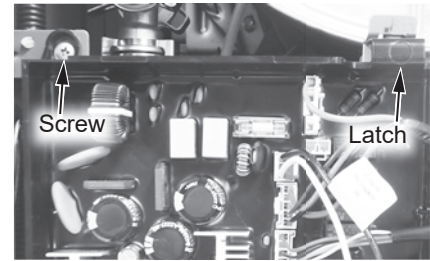

Figure 67 - Control board location
- 6 Locate the screw securing the control board panel. Use a Phillips screwdriver to remove the screw and place it aside in a safe place for reinstallation. See Figure 67.
- 8 Locate the gas valve at the bottom left side of the water heater. See Figure 67.
- 9 Locate and remove the spring clip securing the gas valve to the gas piping system. Note its orientation and place it aside for reinstallation. See Figure 67.
- 10 Remove and keep the screw at base of the gas valve. See Figure 67.